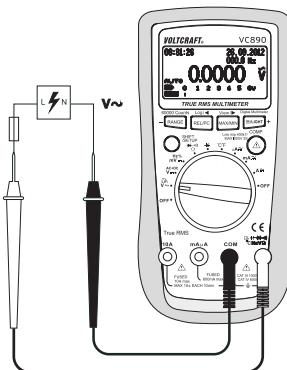

Fig. 10
1. Turn on the DMM and select the measurement range "V ~". Press the SHIFT/SETUP button (3) to switch to the measurement range "".
2. Insert the red test lead in the °CHzVΩ measuring socket (7), the black test lead in the COM measuring socket (8) (Fig. 10).